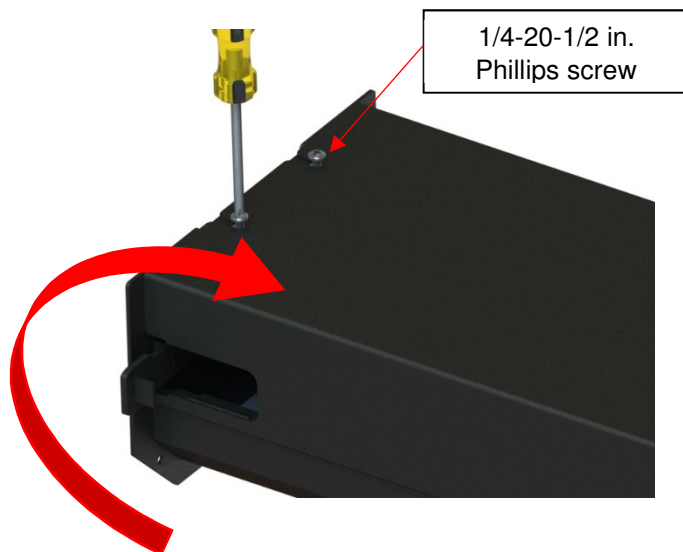

Figure 66
- 7) Carefully lay the post on the ground. Ensure the back of the post with the post support assembly is on top. (Figure 66)